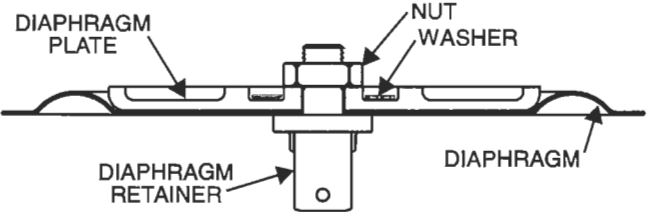

Figure 25. The Series 20L Pilot Diaphragm Assembly.
4. **Diaphragm Assembly:** Assemble the Pilot Diaphragm with the convex side toward Diaphragm Plate and Main Spring (refer to Figure 25). Tighten nut on the Diaphragm Retainer to approximately 5 to 6 ft-lbs torque.